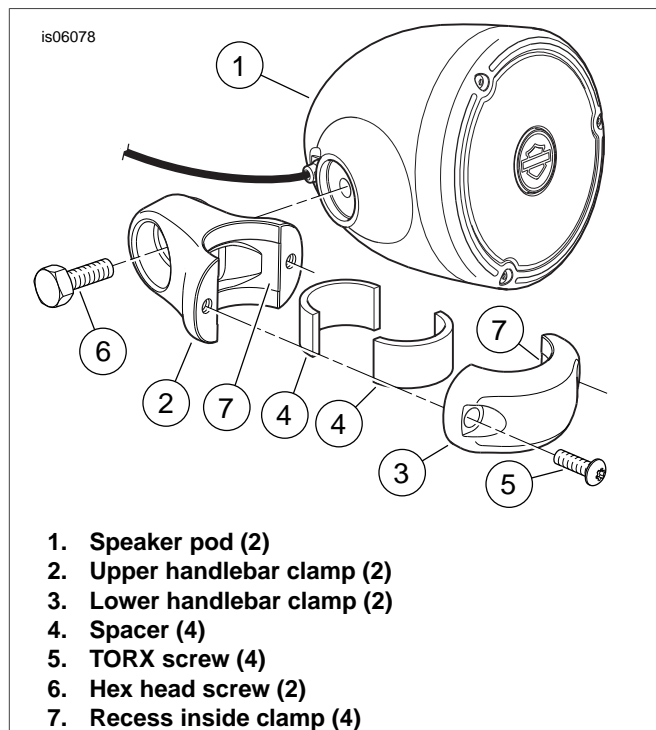

Figure 3. Handlebar-Mounted Speaker Installation
1. See Figure 3. Obtain the following items from the kit:
- speaker pod assembly (1)
- two upper handlebar clamps (2)
- two lower handlebar clamps (3)
- four spacers (4)
- four screws (5)
- two screws (6)